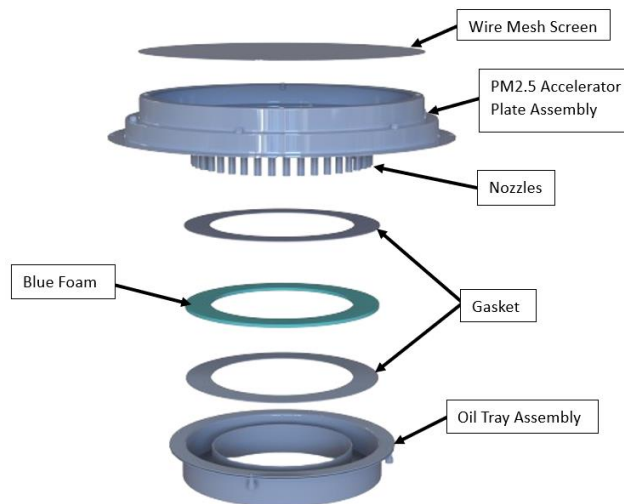

Figure 18 – Inspection Wire Mesh Screen and Inlet Nozzles
3. Check the Wire Mesh Screen and inlet nozzles for dirt or blockages, ensuring the mesh is properly positioned and the inlet is clear, refer to Figure 18.